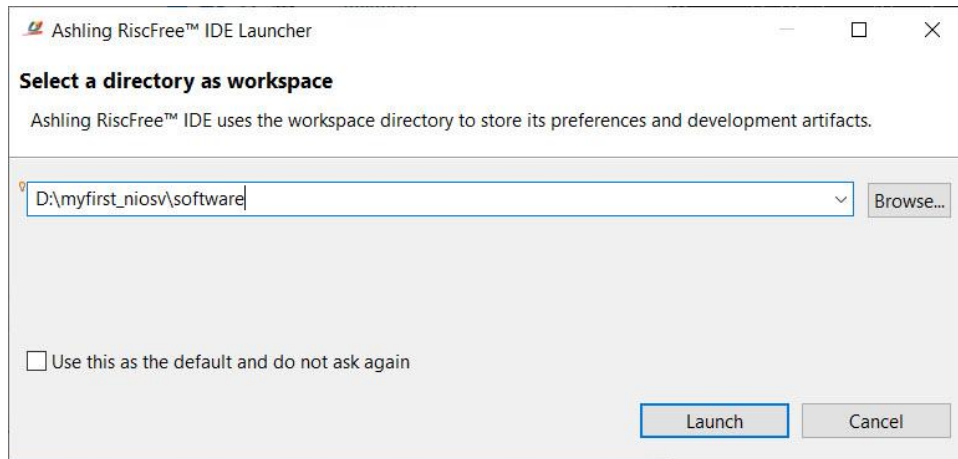

Figure 3-11 Select Workspace
- Then click Launch Set the workspace as shown in Figure 3-11, then click Launch.